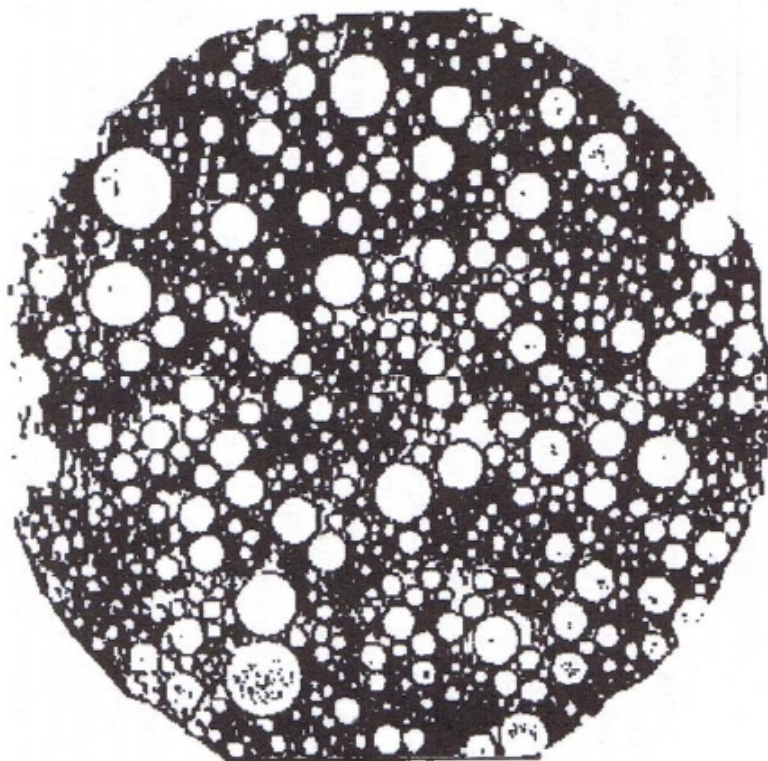

Figure 2
- They normally form water-in-oil emulsion (W/O emulsion), in which water is dispersed as fine droplets in the bulk of oil, as shown in Figure 2.